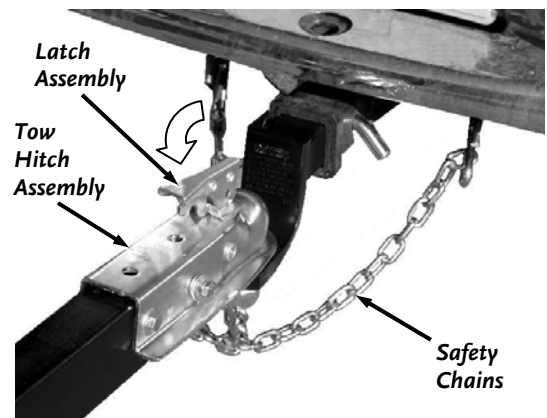

Figure 48
2. Close the latch assembly on the tow hitch assembly to lock the tow hitch assembly onto the tow ball (**Figure 48**). Attach the towing safety chains to the tow vehicle ensuring there is enough slack for turning.